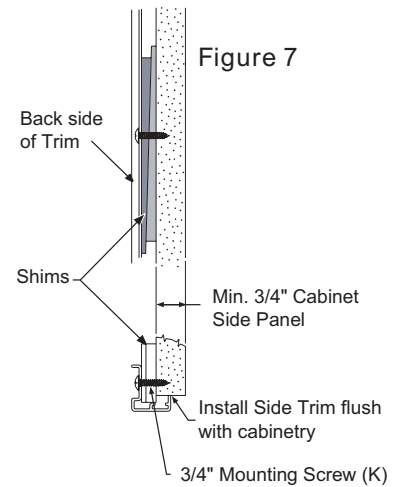
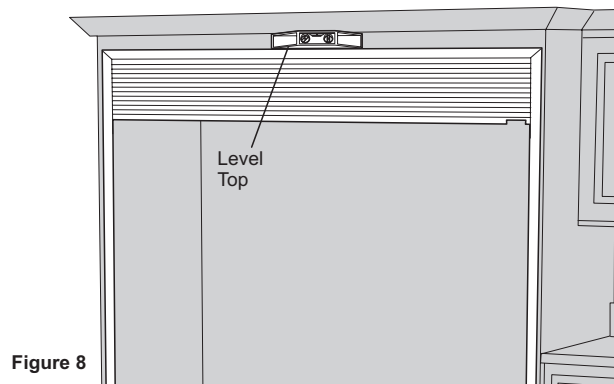

Figure 7
Figure 8
3. Level the top of the trim frame using a carpenter's level. See Figure 8. Shim as necessary. (Shims not included.) See Figures 7 and 7A. Next, secure both ends of top trim (A) to cabinetry using two 3/4" Mounting screws (K) through the holes at each end. Make sure all three screws are snug across the top.